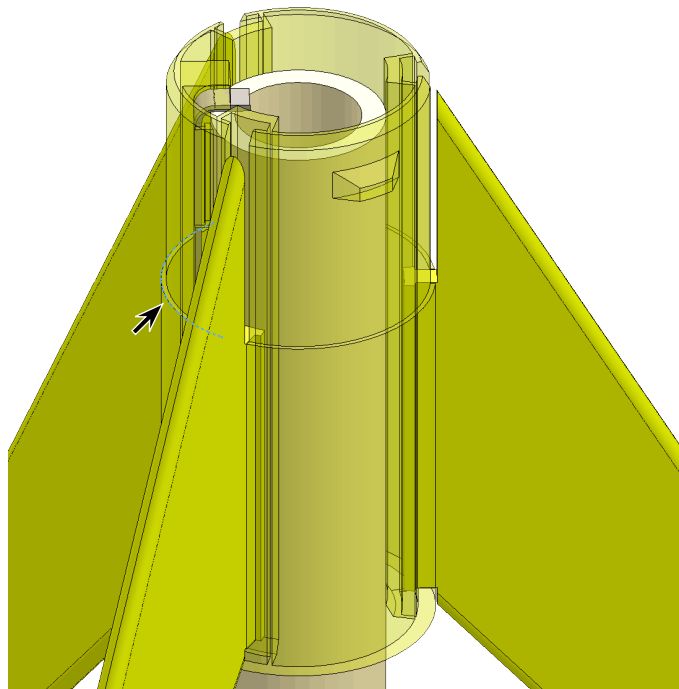

Fig. 26
Step 4. Click **top outside circular edge of Can boss** and **bottom outside circular edge Body Tube**, Fig. 26.